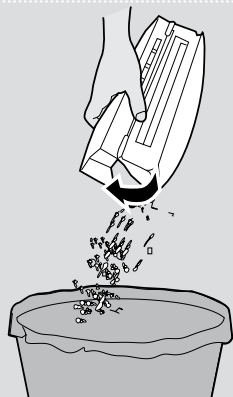

Fig. 18
2. Hold the dust container over a dust bin. **[Fig. 18]**